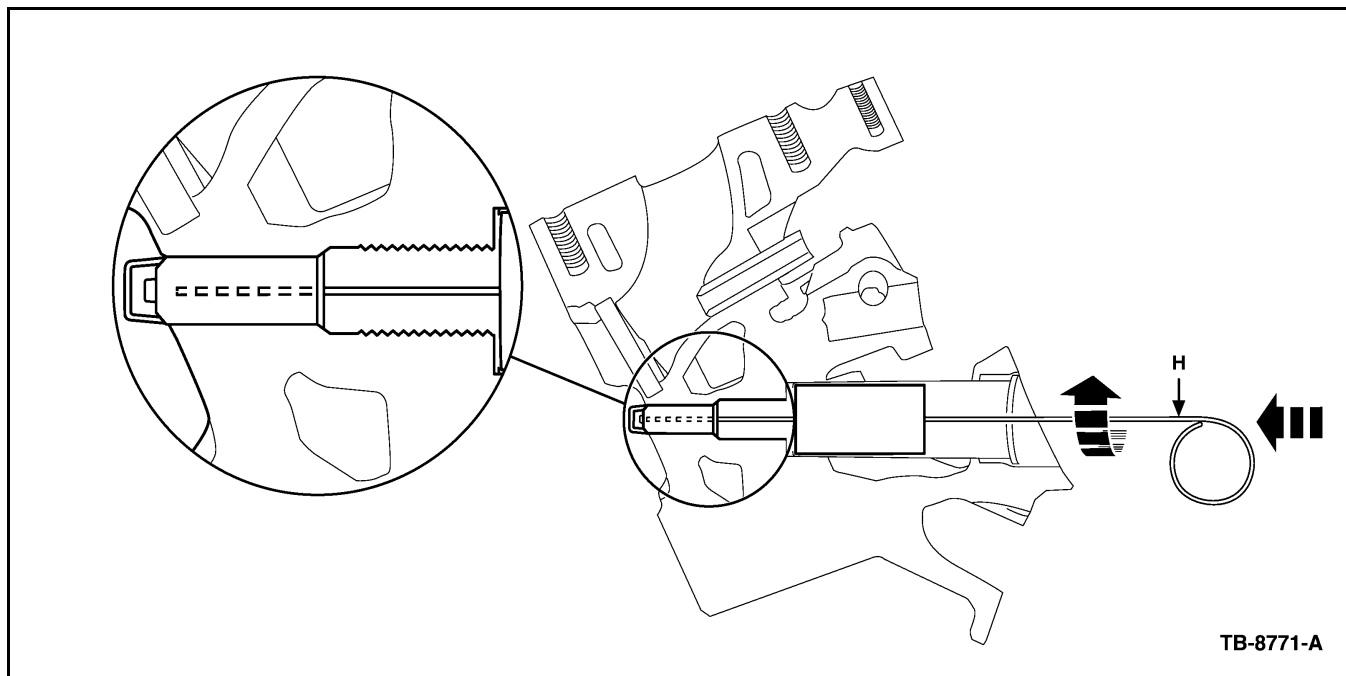

Figure 18 - Article 08-7-6
2. Insert applicator into the porcelain and move applicator up and down 1/2" (13 mm) while turning to spread the Loctite® 638™ on the inside of the porcelain. (Figure 18).